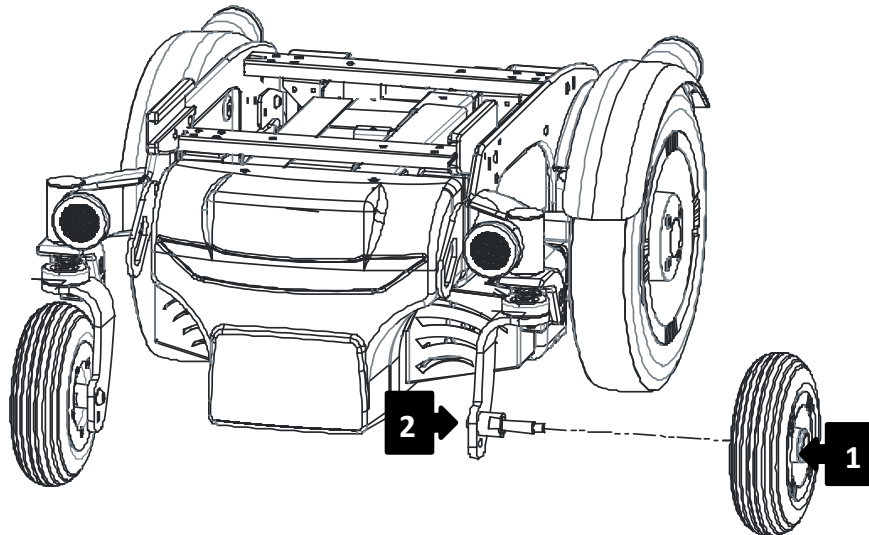

Figure 33
Disassemble the punctured caster unscrewing the bolt shown in Figure 33 by locking the nut (1) with an open-end wrench of 13 mm and unscrew the bolt (2) with an allen wrench of 6 mm.